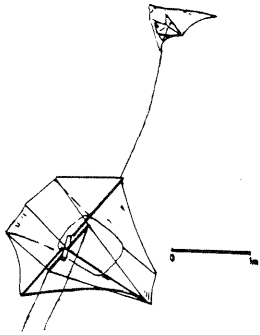

Abb.1
1) Flying Machine 2000, Erfinder Don Dunford (Abb. 1)